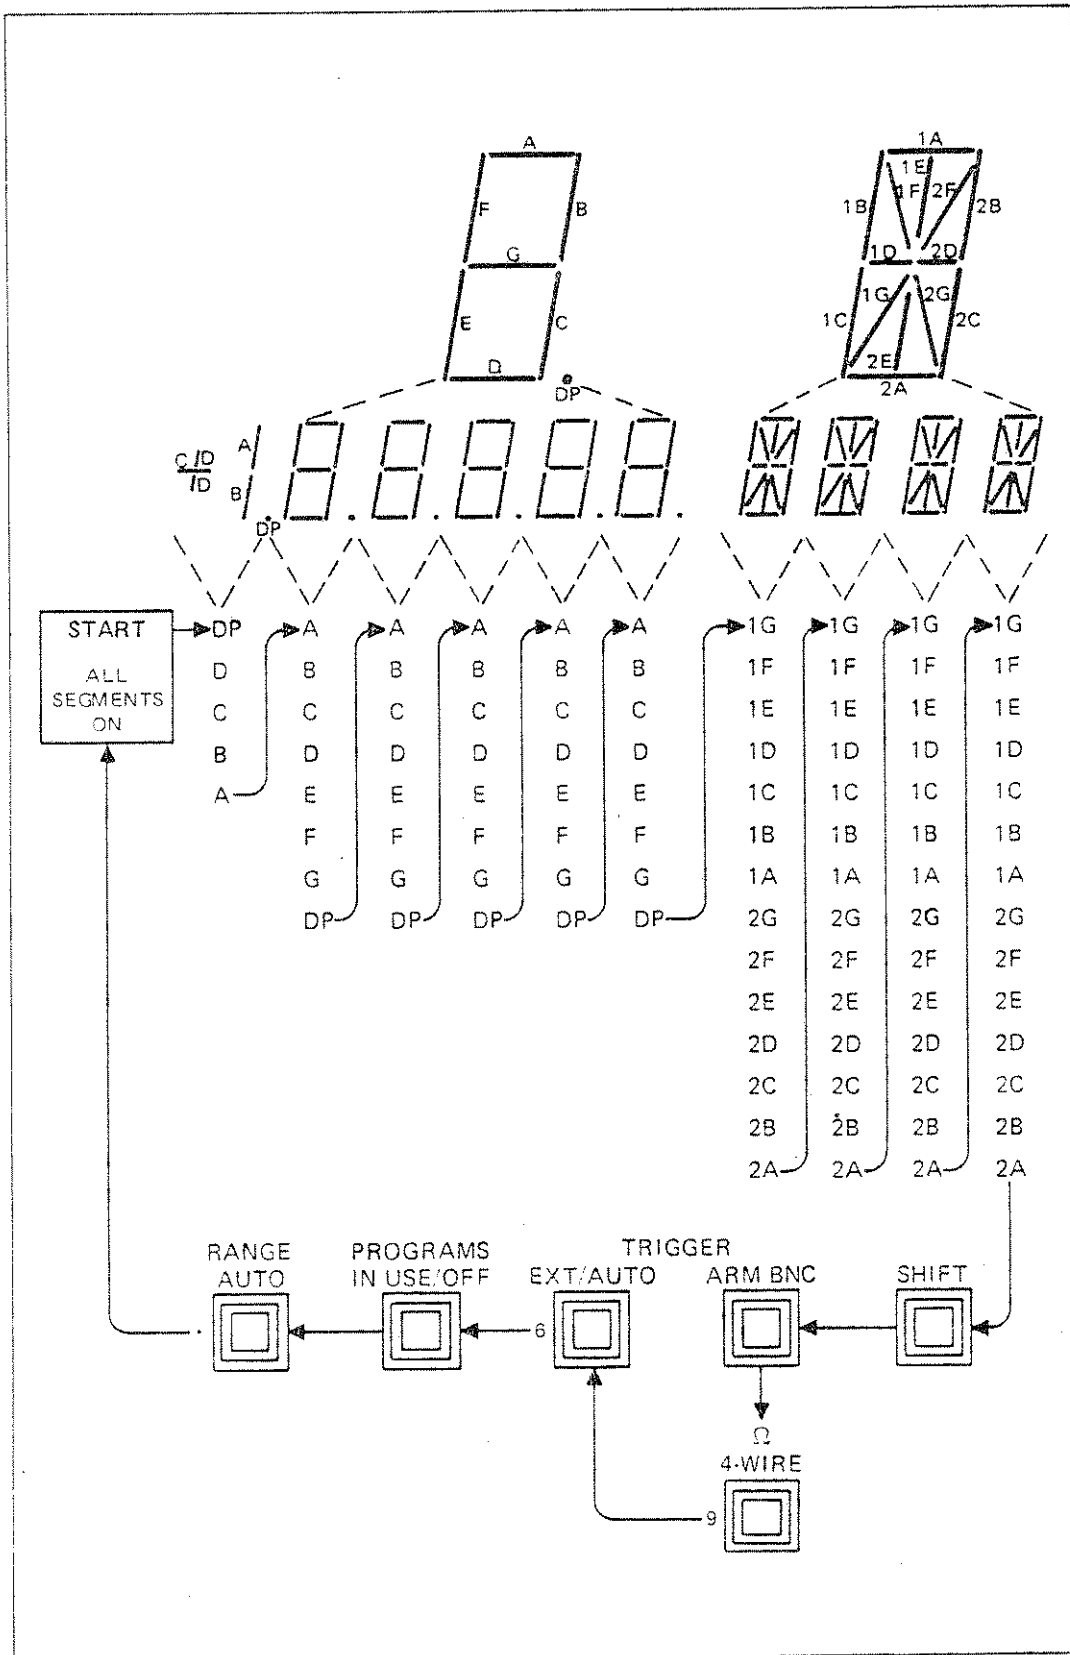

Figure 7A-1. LED Test Sequence
5. LED TEST – Push RESET to start the LED test. The LED Test can be stepped or scrolled. The test will step each time RESET is pushed and released or the test will scroll while RESET is pushed and held. Figure 7A-1 shows the sequence that the LED segments are turned on. Note that in the first step, all segments of every LED are on.